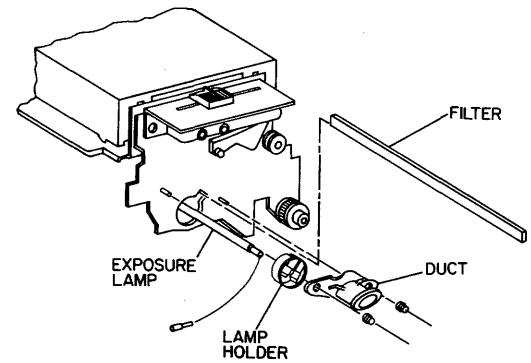

Figure 3-24. Exposure Lamp/Filter Removal
3. REMOVE REAR DUCT FROM REAR OF CVT FRAME (Figure 3-24).